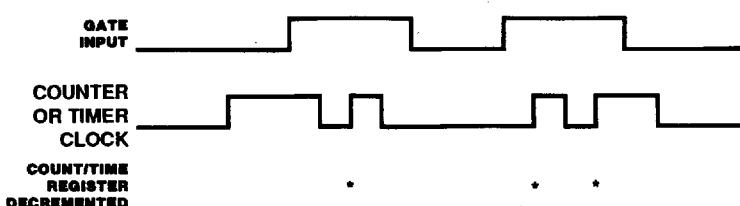

Figure 31. Gate Facility
**Gate Operation.** A counter/timer can be programmed to count or time only when a gating condition is met. While the counter/timer is enabled and the external gate capability is selected, an external input line is monitored; only while this line is High are the counting or timing operations performed. The software gate facility filters the state of the input line; while the software gate bit in the Command and Status register is cleared to 0, the gating condition is not met regardless of the activity of this line. The gate facility is illustrated in Figure 31.